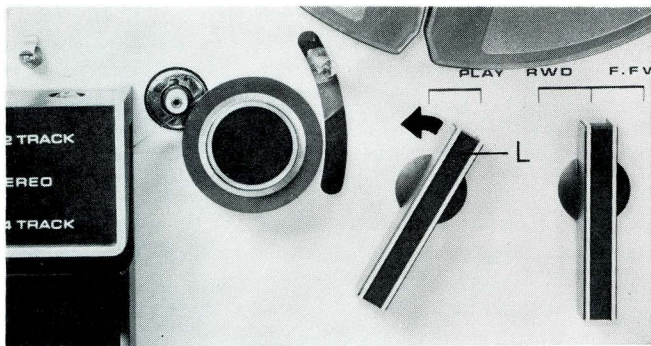

Fig. 25
- (K) When optimum recording level is determined, release PAUSE LEVER (return to "Start" position by pressing START BUTTON).
- (L) When recording is completed, return PLAYBACK LEVER to "Stop" position (Fig. 25).
- (M) When the PLAYBACK LEVER is returned to "Stop" position and the MODE SELECTOR automatically returns from "REC" to "PB" position, playback can be accomplished without re-setting the Mode Selector.